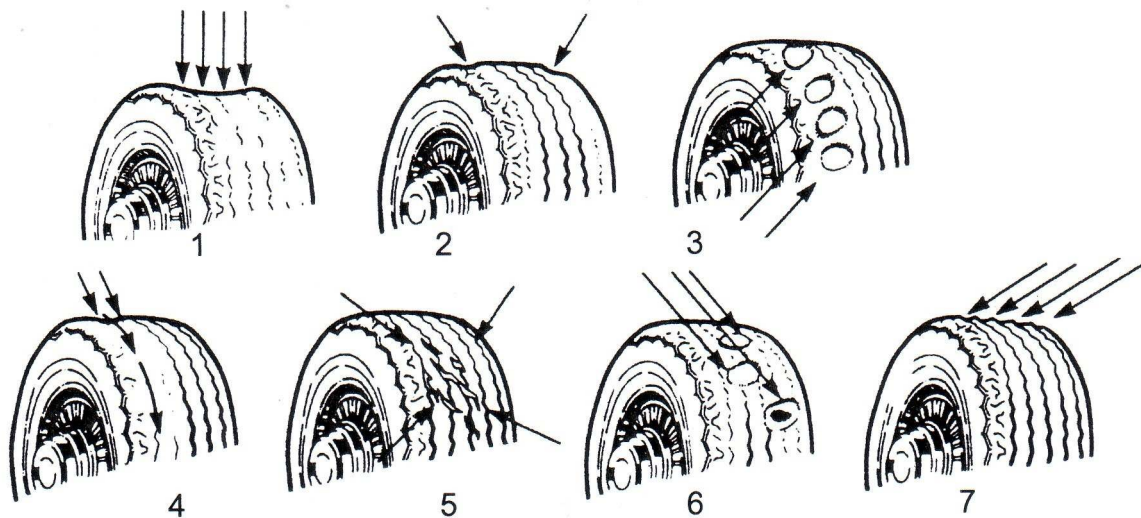

Figure 1: Standard tyre wear drawings, possible causes of uneven or accelerated tyre wear
Abnormal or too fast tyre wear originates when irregularities or defects occur to the wheel, the tyre or the vehicle. Other causes of too fast tyre wear are incorrect use of the vehicle and poor maintenance (figure. 1).
The examples discussed below are shown by number in figure 1.
2. *State any two (2) consequences of wheel deviation.*
3. *What are the possible causes of the tyre wear shown in figure 1; 2; 3; and 4.*